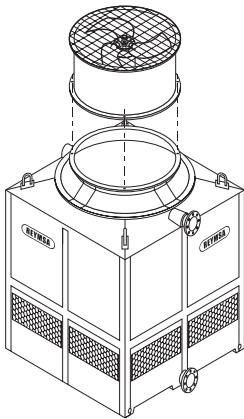
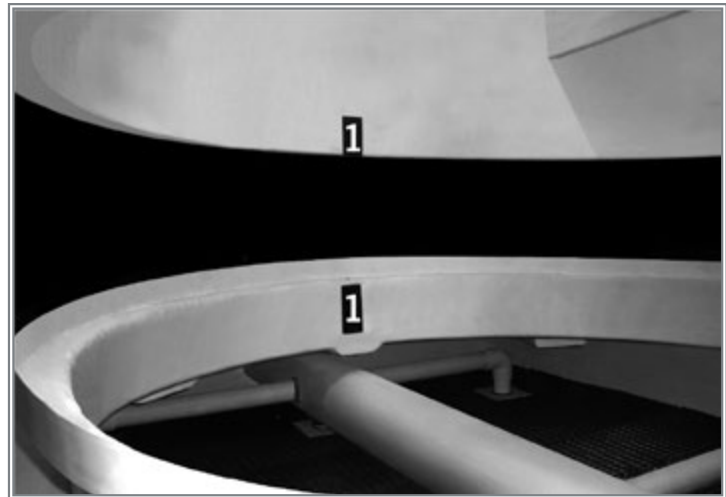

Figure A-39: Fan duct installation in a fan adaptor
Figure A-40: Fan duct alignment
C. Then place the fan duct on top of the fan adaptor (see Figure A-39); make sure the bolt holes and the marks inside the fan duct are aligned (see Figure A-40). Then secure it using the stainless steel nut and bolt sets supplied by REYMSA.